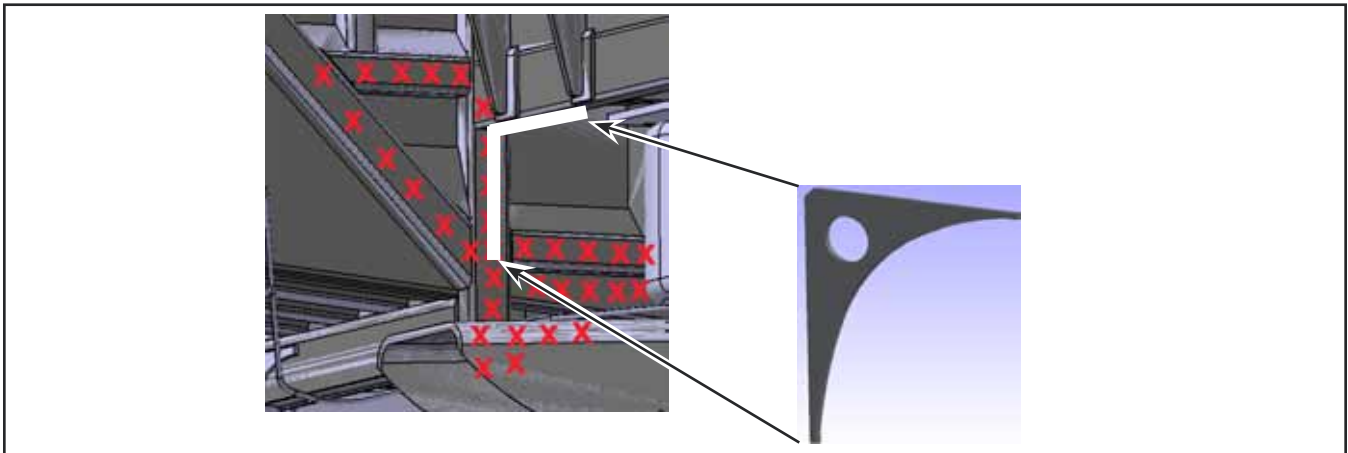

Figure 6 - Location of the Plate to Remove in Zone 2
- 1.15. Remove the plate located in zone 2 to be reinforced. See Figure 6.